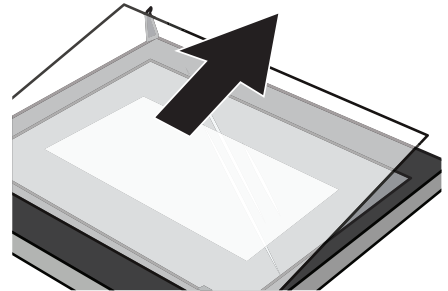

Figure 5
- 5** Push the glass into the position indicated by the arrow in Figure 5. Gently pull the glass out of the socket.